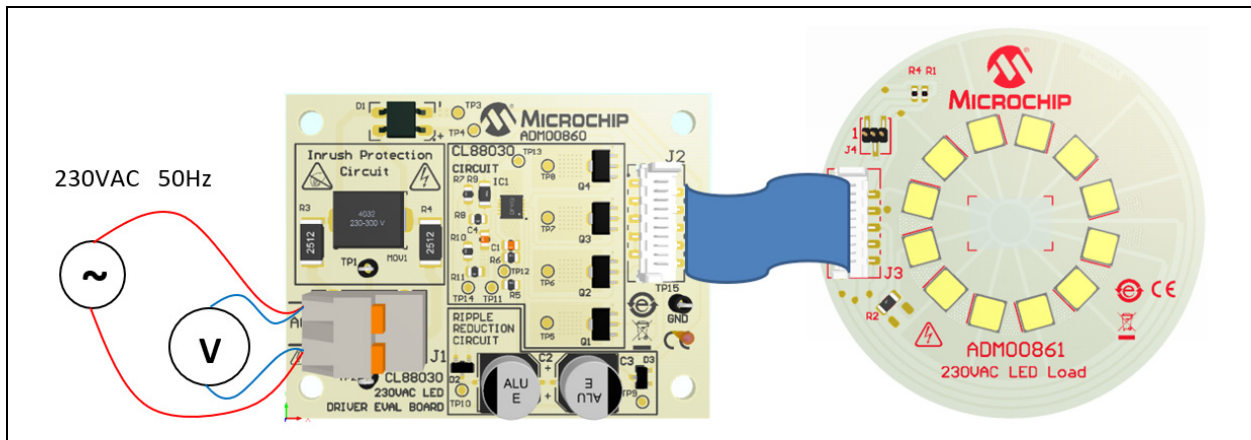

FIGURE 2-1: Connection Diagram.
Figure 2-1 illustrates the connection between ADM00860 and ADM00861.
1. Connect the input AC source and the output LED Load, as shown in Figure 2-1.